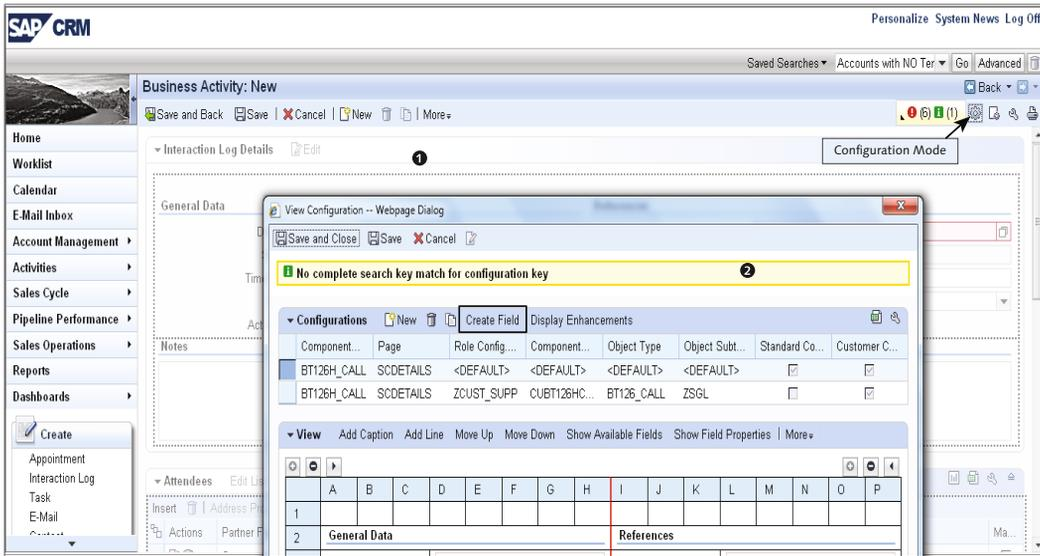

Figure 8.59 WebClient UI Screen in Configuration Mode
- Click on the CONFIGURATION MODE button, as shown in Figure 8.59. The screen grays out ❶, and the new field is added to the view. Select the view that you want to add fields to, and a popup screen will appear ❷. Click on the CREATE FIELD button to create a new field.